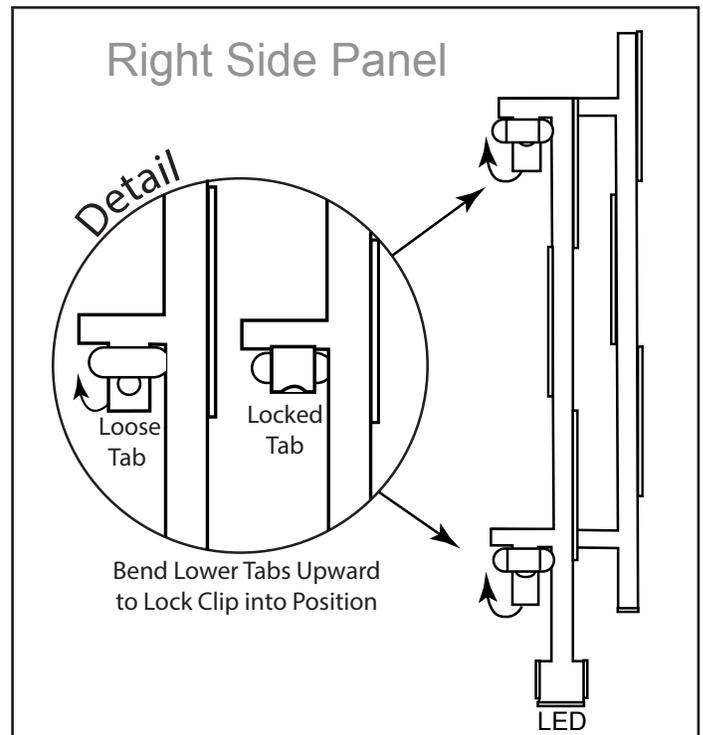

Fig. 21 Detail close up of glass clips.
**Step 2:** After each LED glass clip is installed, use a flat blade screw and carefully bend the bottom tab out and upward to lock it into position. Use a fingertip or pliers to press the tab flat against the metal bridge. See Fig. 21.